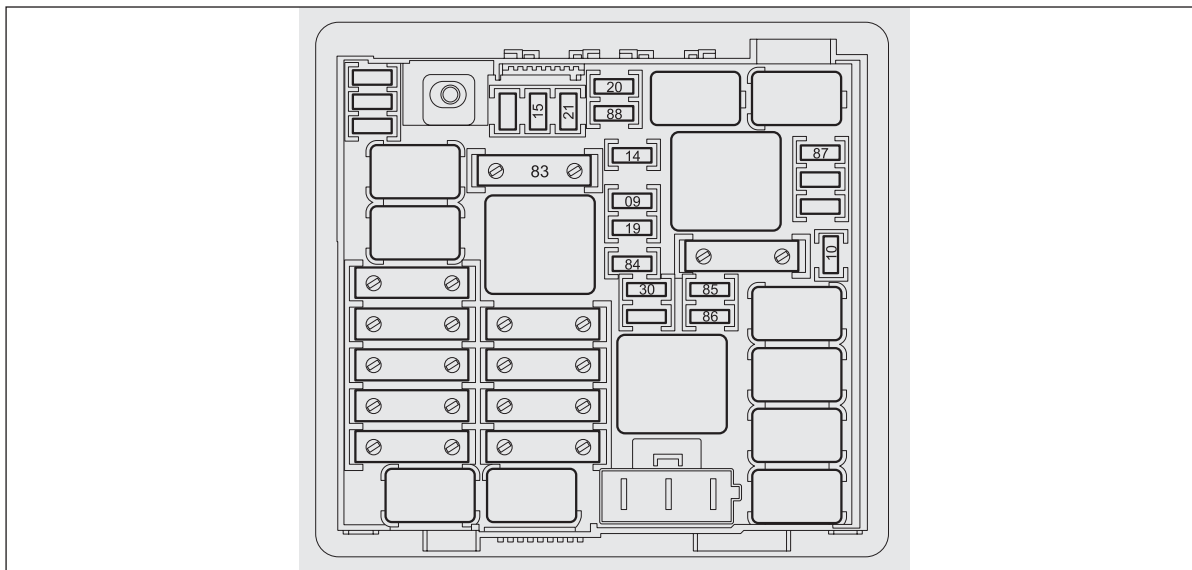

fig. 159
**Engine compartment fusebox fig. 159**
## Engine compartment fusebox fig. 159